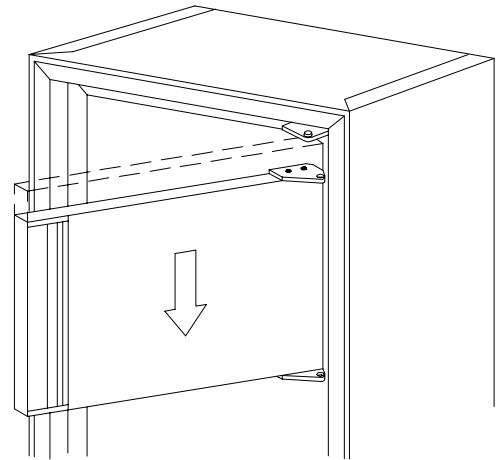

Figure 6
3. Remove the upper door by opening the door slightly and pulling the bottom of the door away from the refrigerator. Allow enough room to slide the door down off of the upper hinge pin shoulder. (See Figure 6)